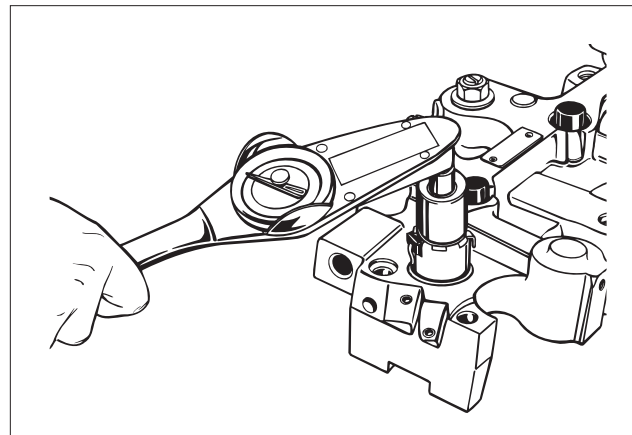

FIG. 34
6. Be sure the seals are seated properly and carefully and screw the solenoid into the housing without unseating the seals. Torque the valve to 15 lb.-ft. (20 N•m) (see Fig. 34).